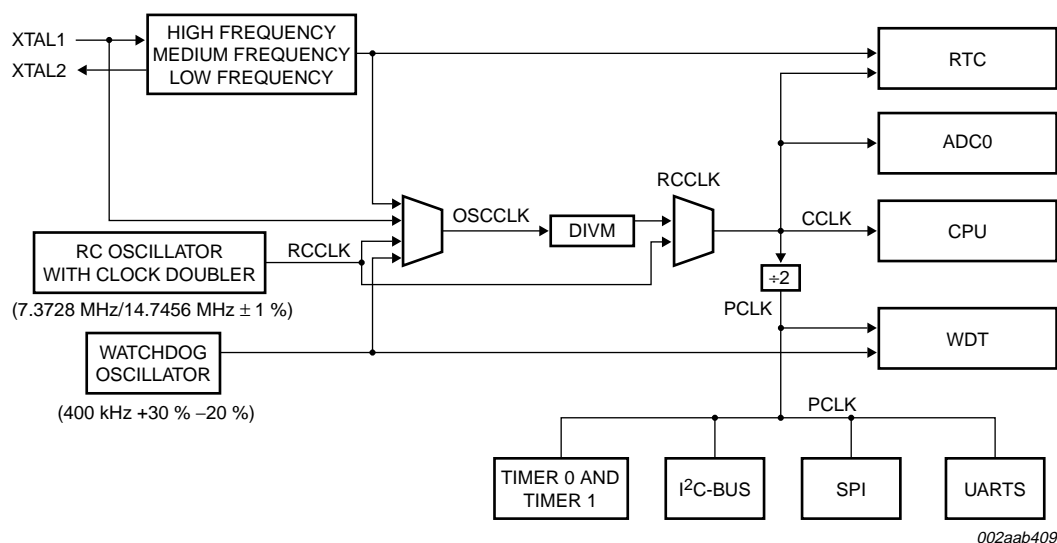

Fig 6. Block diagram of oscillator control
**OSCCLK** — Input to the DIVM clock divider. OSCCLK is selected from one of four clock sources (see Figure 6) and can also be optionally divided to a slower frequency (see Section 7.8 “CCLK modification: DIVM register”).